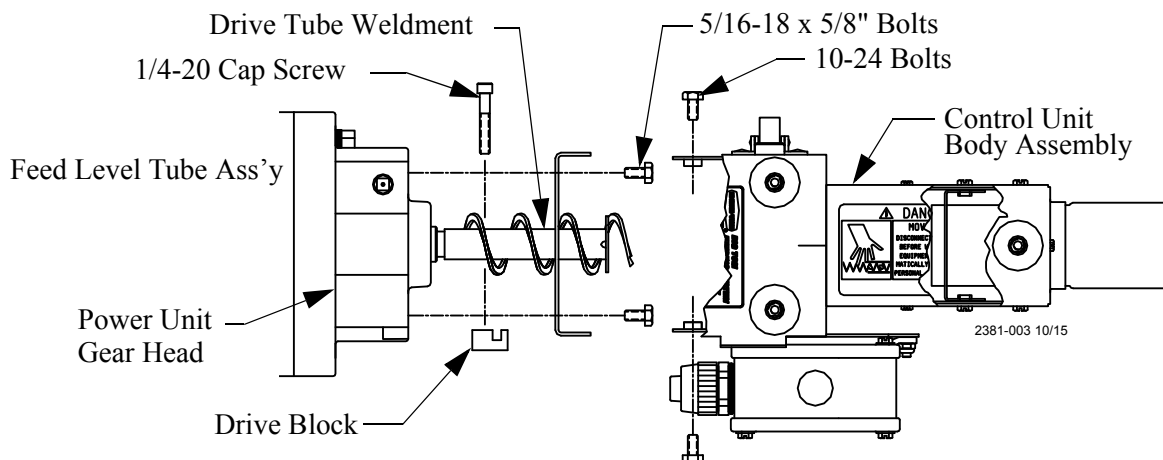

Figure 34. Control Unit Installation
1. Remove the four 5/16-18 x 5/8" bolts from the parts package and use them to bolt the anchor plate to the power unit. Install the anchor plate with the angled end pointing down, **see figure 34.**
2. Bolt the control unit body assembly to the power unit, using hardware supplied, **see figure 34.**
Mount the control unit on the end of the feeder line and secure with a tube clamp. See **Figure 34 (on page 26)**. The distance between the control unit pan and the last pan should be 5' (1.5 m) or less.